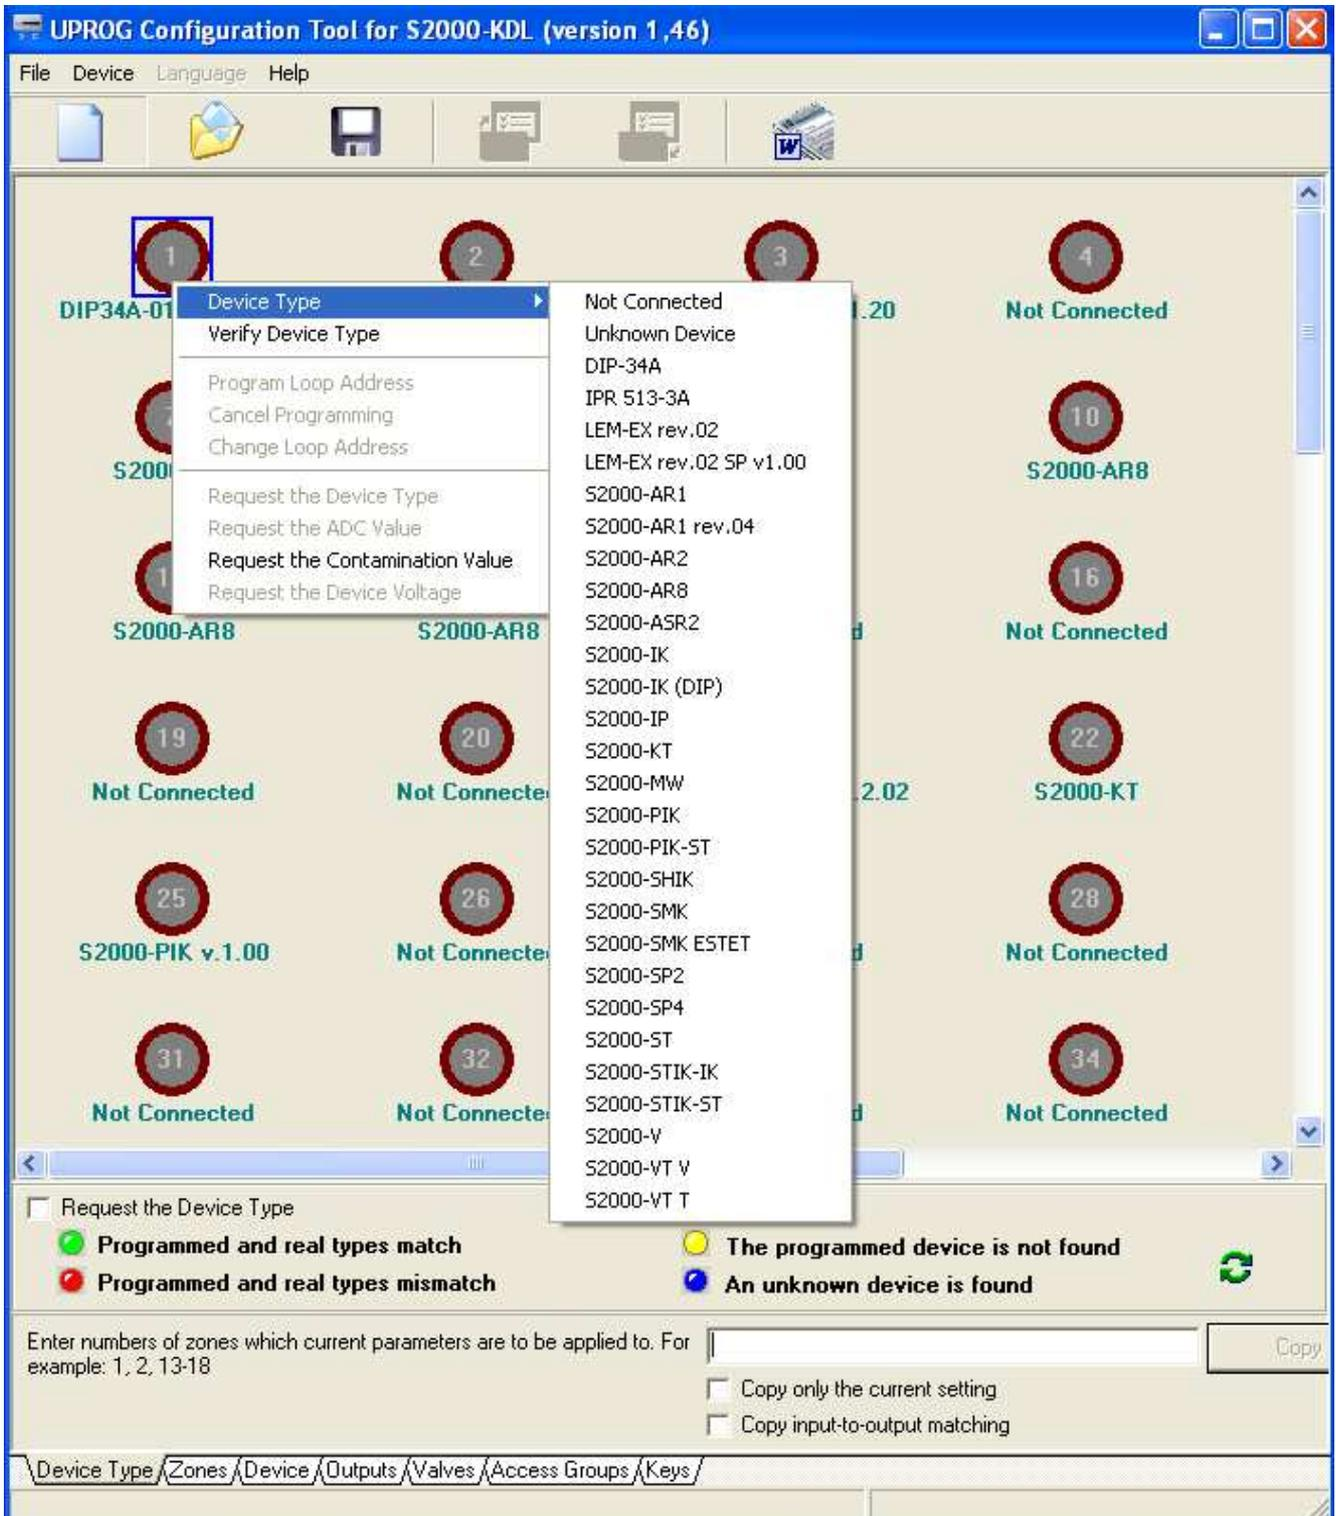

Figure 14. Programming Types of Addressable Devices in the Polling Loop
You can work with addressable devices connected to the polling loop of the S2000-KDL by using the Device Type tab of the UProg (see Figure 14).
On the Device Type tab of the UProg (see Figure 14) the address space of the polling loop is visualized schematically with already programmed or vacant addresses. Addressable zones are seen as circles with loop addresses in its centers. The captions below the circles show types of devices programmed for each zone (or Not Connected if the zone has not yet been programmed).
1. Manually, by left clicking on the addressable zone followed by selecting the device type from the context menu (see Figure 14). If the loop address of the addressable device has not yet been programmed, assign the device to the address equal to the number of the addressable zone (see Section *Programming Loop Addresses of Addressable Devices*).
To **program the addressable device address** which corresponds to an addressable zone of the controller, right click on this zone and select the command *Program Loop Address* from the context menu (see Figure 14).
If programming the address of the addressable device has completed successfully or 10 minutes has elapsed since entering the programming mode then the controller exits programming mode. To force S2000-KDL's exiting the mode of programming addressable devices, right click on the relevant zone and select the Change Loop Address command from the context menu (see Figure 14).
To request any parameter of an addressable device right click the device address and select the proper command in the lower part of the context menu (see Figure 14). Selected command's having returned the value of 255 means that this addressable device doesn't support the command.